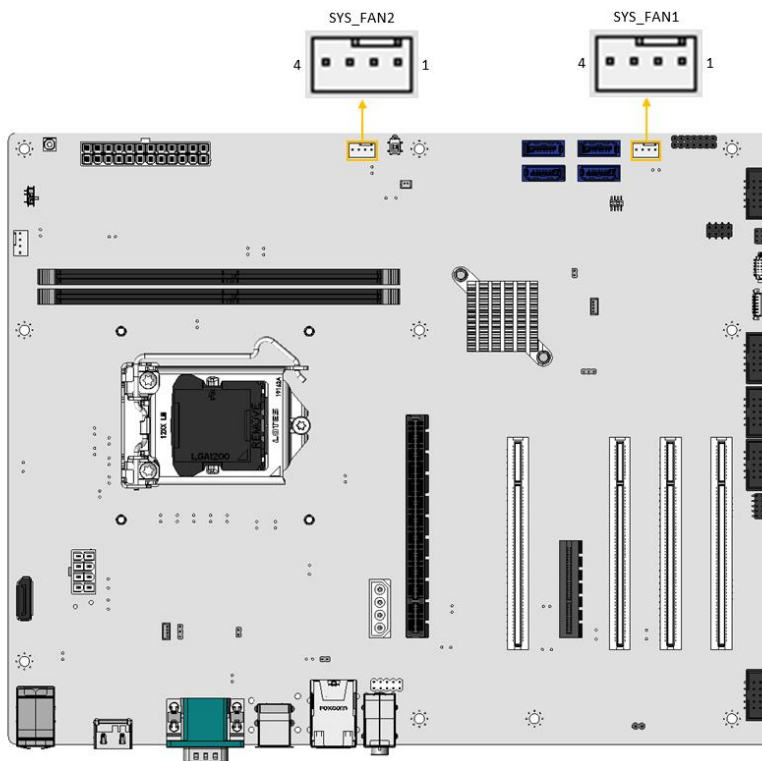

Figure 3-11: System Fan Connector Locations
- CN Location:** See **Figure 3-11**